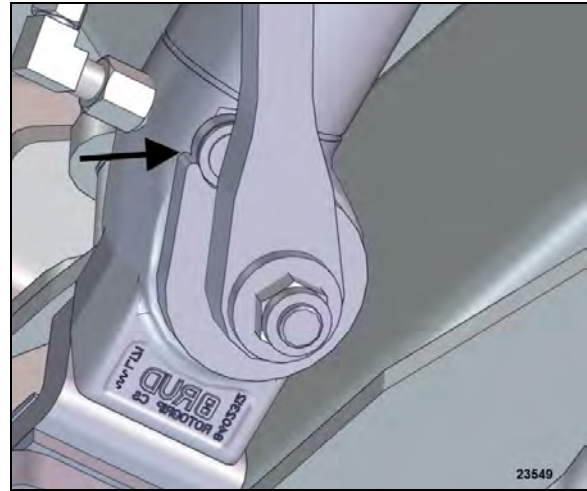

FIGURE 34: CAM STOP – CLEAN AND LIGHTLY LUBE
- Clean the mechanical cam stop of the arms and lubricate with a lite oil (FIGURE 34).